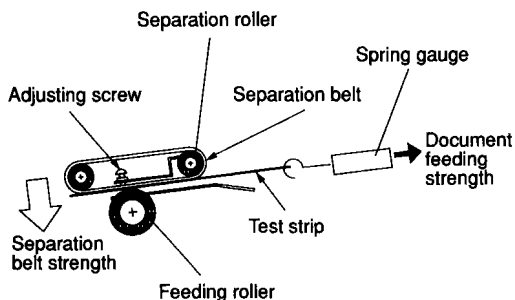

Figure 5-25
- ① Make sure that the three separation belts are in contact with the test strip.
- ② Be sure to pull the test strip straight along the separation belt; see Figure 5-25.